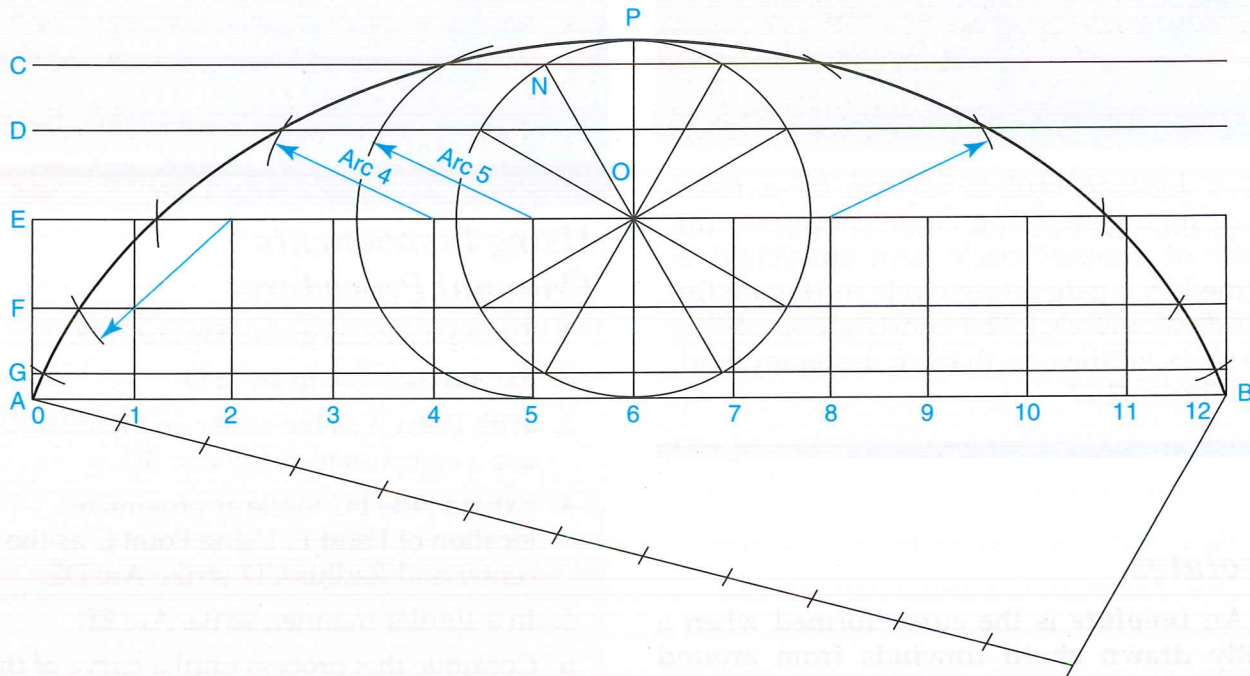

Figure 7-25. Constructing a cycloid.
1. The generating circle and a tangent line, Line AB, are given, **Figure 7-25**. Line AB is equal to the rectified length of the generating circle.
1. The circle and a tangent line equal to the rectified length (Line AB) are given. Refer to **Figure 7-25**.
6. The points where the circles intersect with Lines C, D, E, F, and G locate the points along the curve. Refer to **Figure 7-25**.